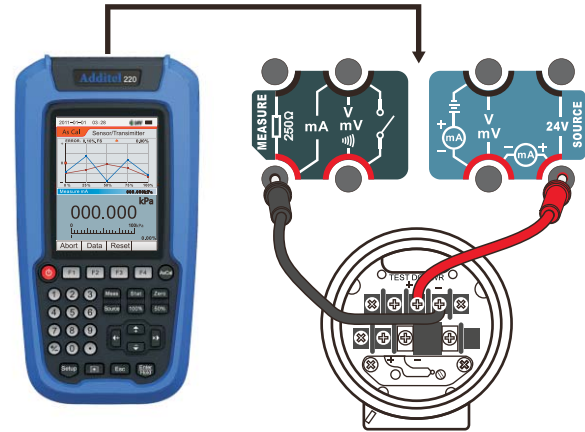

Figure 9.33 Pressure transmitter calibration
5. As shown in Figure 9.33 Connect test line, the first external pressure transmitter calibration point (0%) of the standard input signal: 0 kPa.